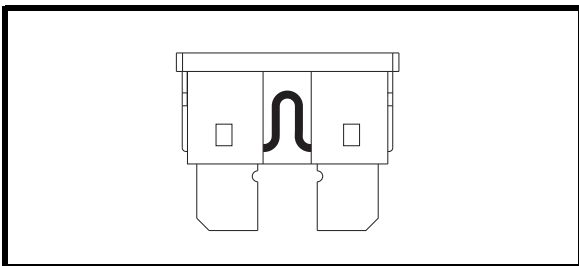

Figure 19. Working Fuse
WARNING! Position the front-to-rear harness so it will not become pinched between the frame halves when pivoting the rear section forward. See figure 19.
2. Examine the fuse to be sure it is blown. See figures 19 and 20.